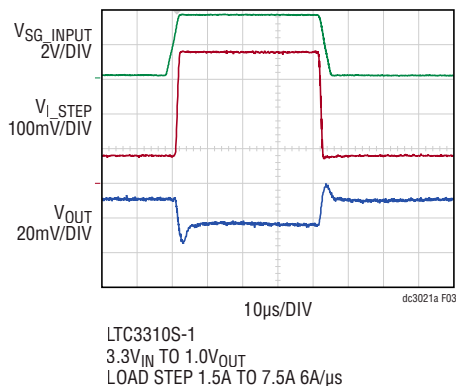

Figure 1. Load Transient Response Measurement
8. Measure the I_STEP voltage to observe the current, $V_{I_STEP}/50\text{m}\Omega$. Adjust the amplitude of the pulse to provide the desired transient. Adjust the rising and falling edge of the pulse to provide the desired ramp rate using Equation 2. The Load Transient Response Measurement (Figure 1) shows a load step from 1.5A ($R_L = 0.62\Omega$) to 7.5A.